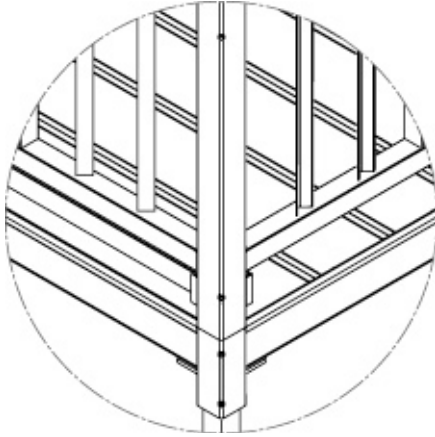

FIG. 25
- 5.3.4 Tighten lower two 3/8"-16 setscrews in each of the four vertical guardrail posts with 3/16" hex key wrench securely (FIG. 25).
- 5.4.2 Tighten lower two 3/8"-16 setscrews in each of the four vertical guardrail posts with 3/16" hex key wrench securely (FIG. 25).
- 5.5.5 Tighten lower two 3/8"-16 setscrews in each of the four vertical guardrail posts with 3/16" hex key wrench securely (FIG. 25).
- 5.6.3 Tighten the lower 3/8"-16 setscrews, two in each of the four vertical guardrail posts with 3/16" hex key wrench securely (FIG 25).